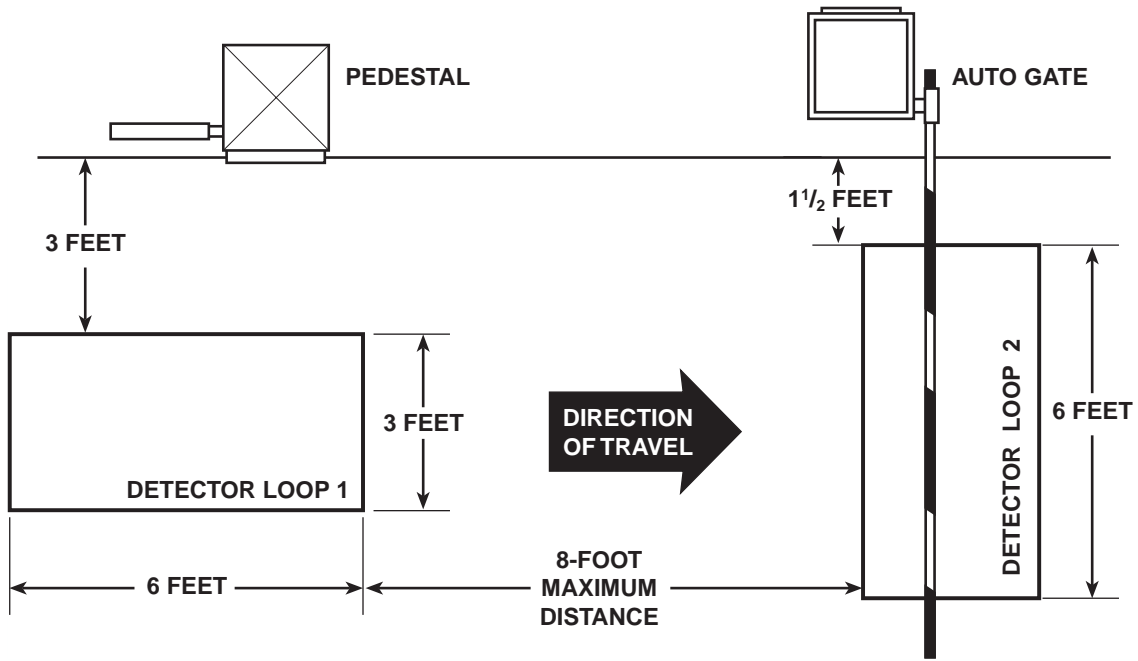

Figure 1-2. Typical pedestal, auto gate, and detector loops configuration
- Auto gate. The auto gate consists of a gate arm or crash beam barrier, the gate housing, and two detector loops (see figure 1-2).